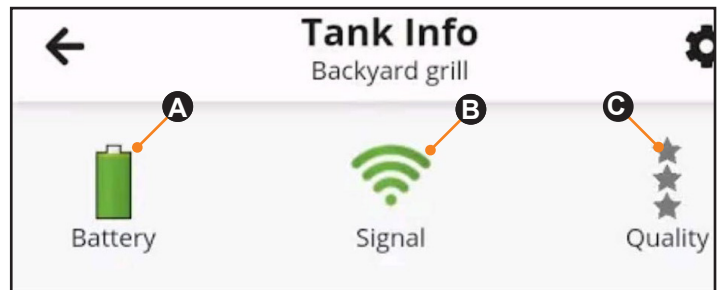

Fig.6
- The app will report to the user the battery life of the sensor, communication signal strength between the app and the sensor, and other features for the user's convenience (Fig.6 and 7).
Callout	Fig. 6 Descriptions